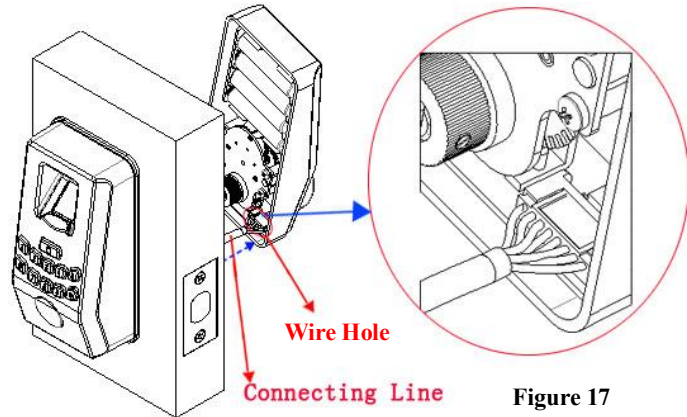

Figure 17
1. Pull the **Connecting Wire** into the **Wire Hole** of the **Rear panel Assembly**. As shown in **Figure 17**: